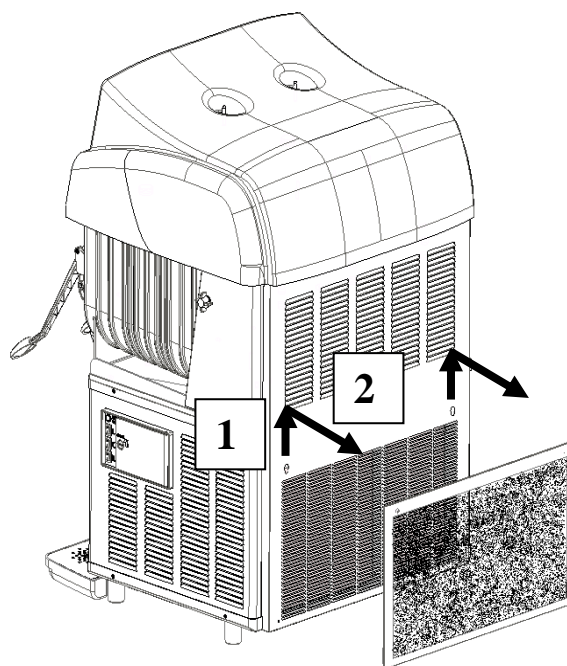

Fig. 37
- Remove the filter first by lifting it and second by pulling it outward as showed in fig.37;